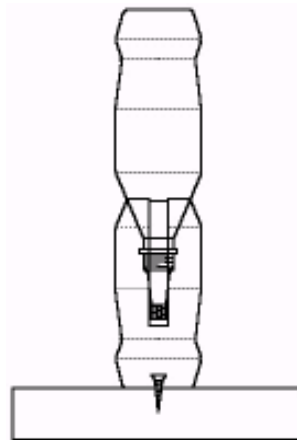

Fig. 4
5. Slide the soda bottle rocket with hose attached into the launch pad. See the finished pad ready to launch (Fig. 4).